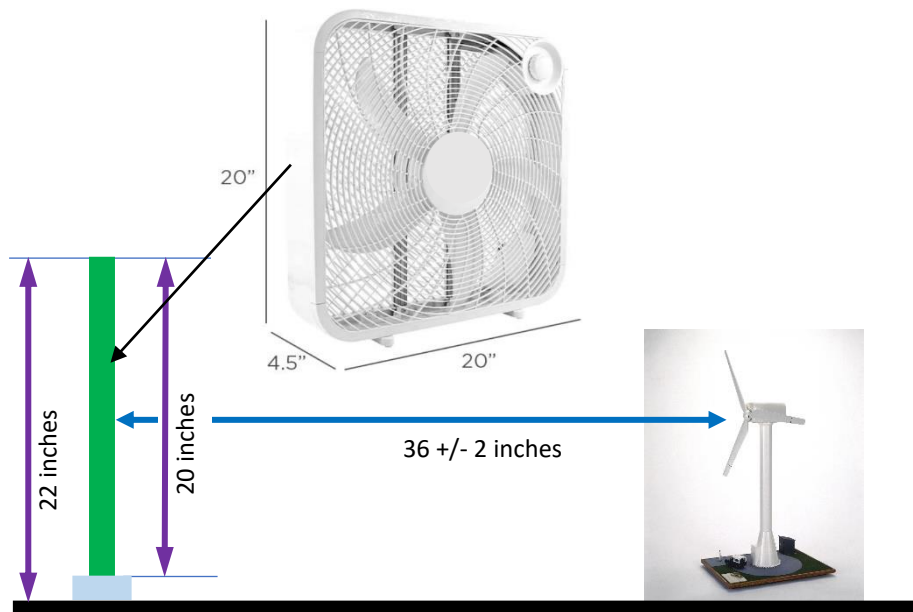

Fig.1, wind turbine model test is setup on a table with a box-fan that is raised 2 inches above the table surface
**Test:** Due to the COVID-19 pandemic, each team is required to setup and test the wind turbine outcome at their local school. A simple test setup is shown in Fig. 1, the airflow for the test